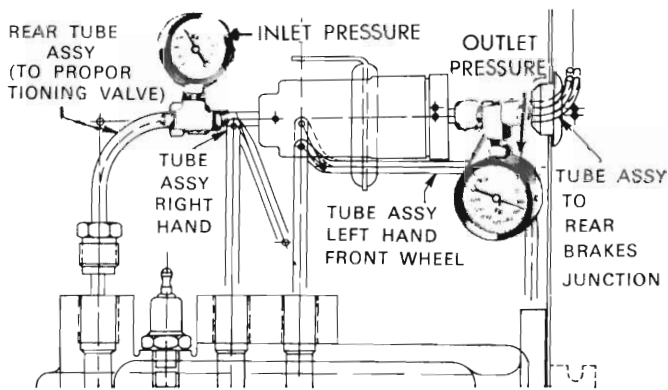

Fig. 5 - Proportioning Valve Check. (Models equipped with Track Pack.)
(1) Remove the tubes and install one gauge of Gauge Set (2) 2,000 P.S.I. gauges) and T in brake line between master cylinder and proportioning valve and remaining Gauge and 'T' at output end of proportioning valve and brake line. (Fig. 5). BE SURE ALL JOINTS ARE FLUID TIGHT.
(2) Have a helper exert pressure on brake pedal (holding pressure). Obtain a reading on master cylinder output of approximately 500 P.S.I.
(3) While pressure is being held as above, reading on valve outlet Gauge should be 360-405 P.S.I.